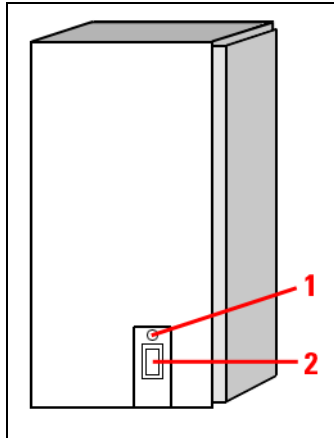

Figure 58: Microscope electronics box
6. Check whether the microscope is switched on. The microscope is operational once the readiness indicator (**Figure 58, item 1**) on the toggle switch is lit up. If the readiness indicator is not lit, activate the electronics box toggle switch (**Figure 58, item 2**).